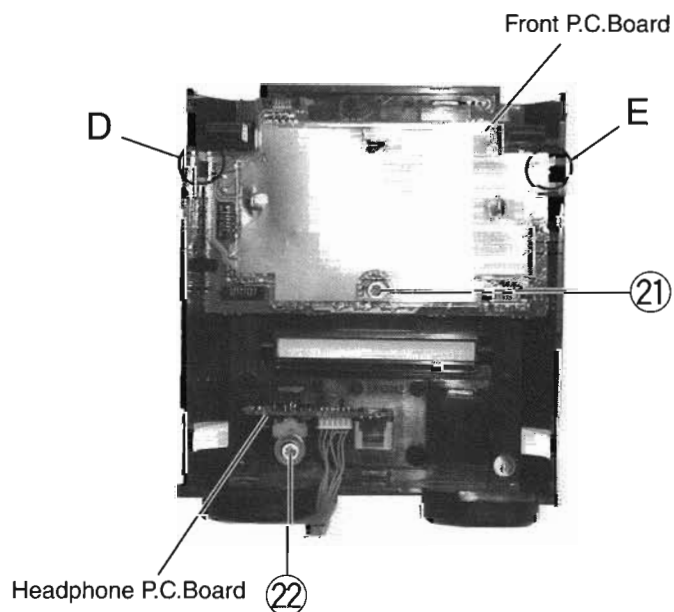

Fig.33
■ Removing Front P.C.Board (see Fig.33)
2. Remove the one screw ②⑪ attaching the front board. Expand and release joints D and E of the front board and front cabinet respectively.
3. Remove the one screw ②⑫ attaching the headphone P.C.Board.